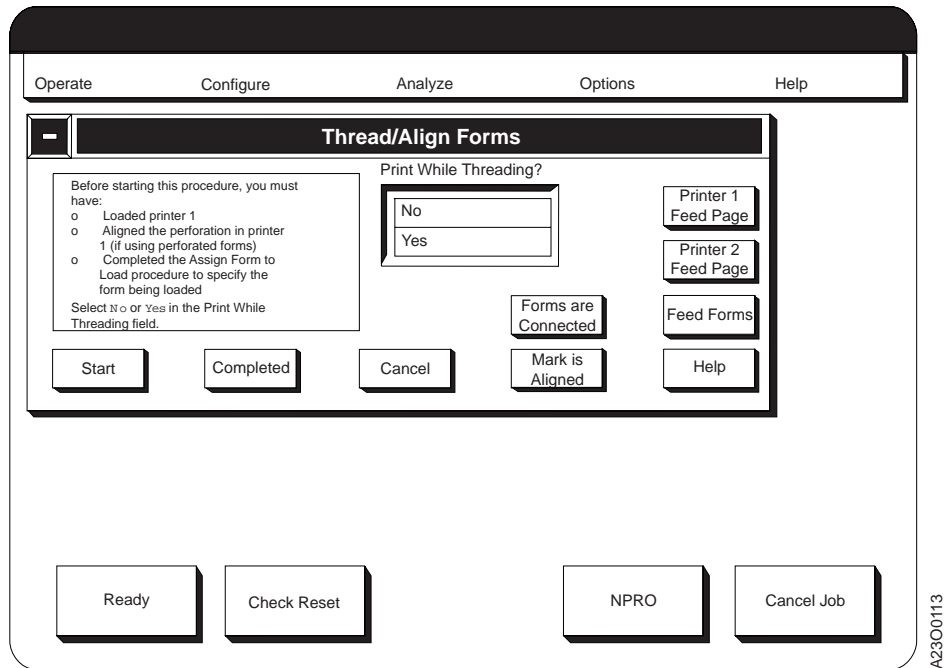

Figure 22. Main Thread/Align Forms Window
3. **SELECT** the **OK** push-button on the window. The main **Thread/Align Forms** procedure window (Figure 22) appears.